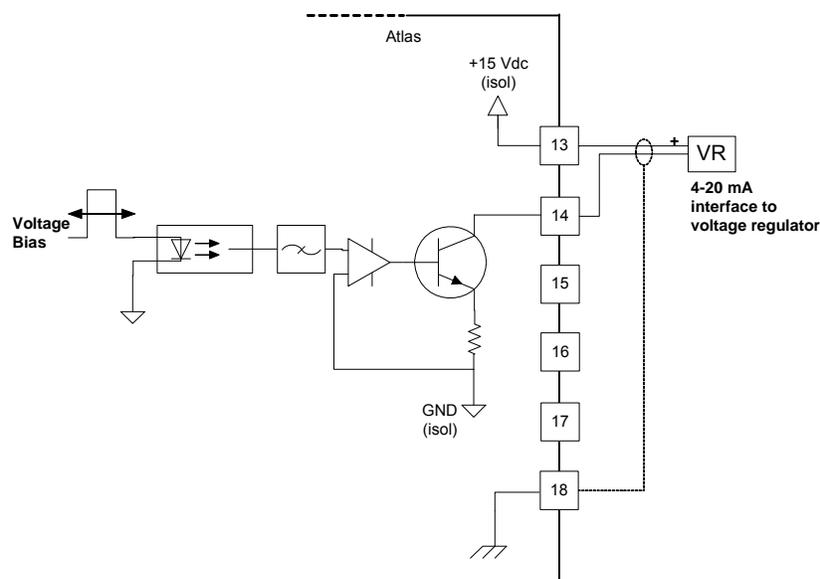

Figure 6-12. Voltage Bias Output Interface to the PowerSense Board (wiring example, configured for 4–20 mA)
- Refer to Figures 6-12 and 6-13 for Voltage Bias Output wiring.